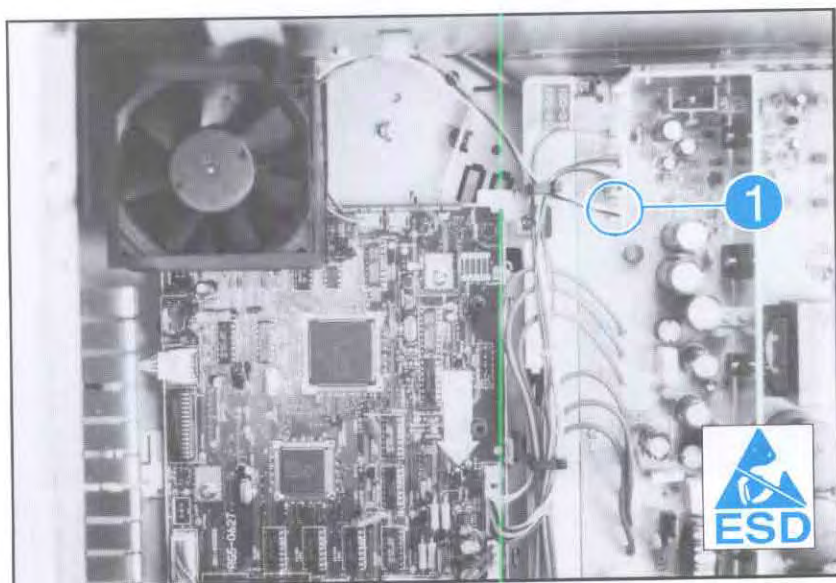

Figure 6-19. Fan FM2
4. Unplug the (1) connector (J7) from the DC Power Supply (see Figure 6-19, callout 1).
4. Remove Fan FM2 (see Figure 6-19).